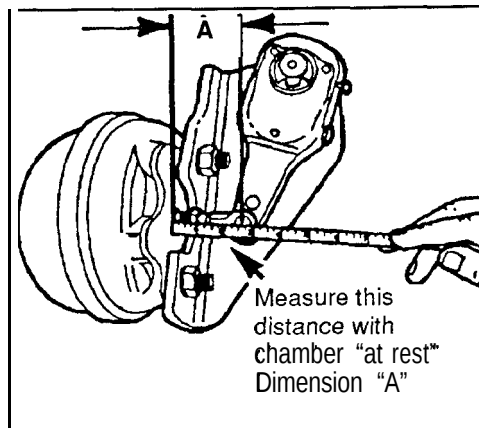

Figure 3
1. Measure from the brake chamber face to the center of the clevis pin at all wheel locations (see Figure 3).